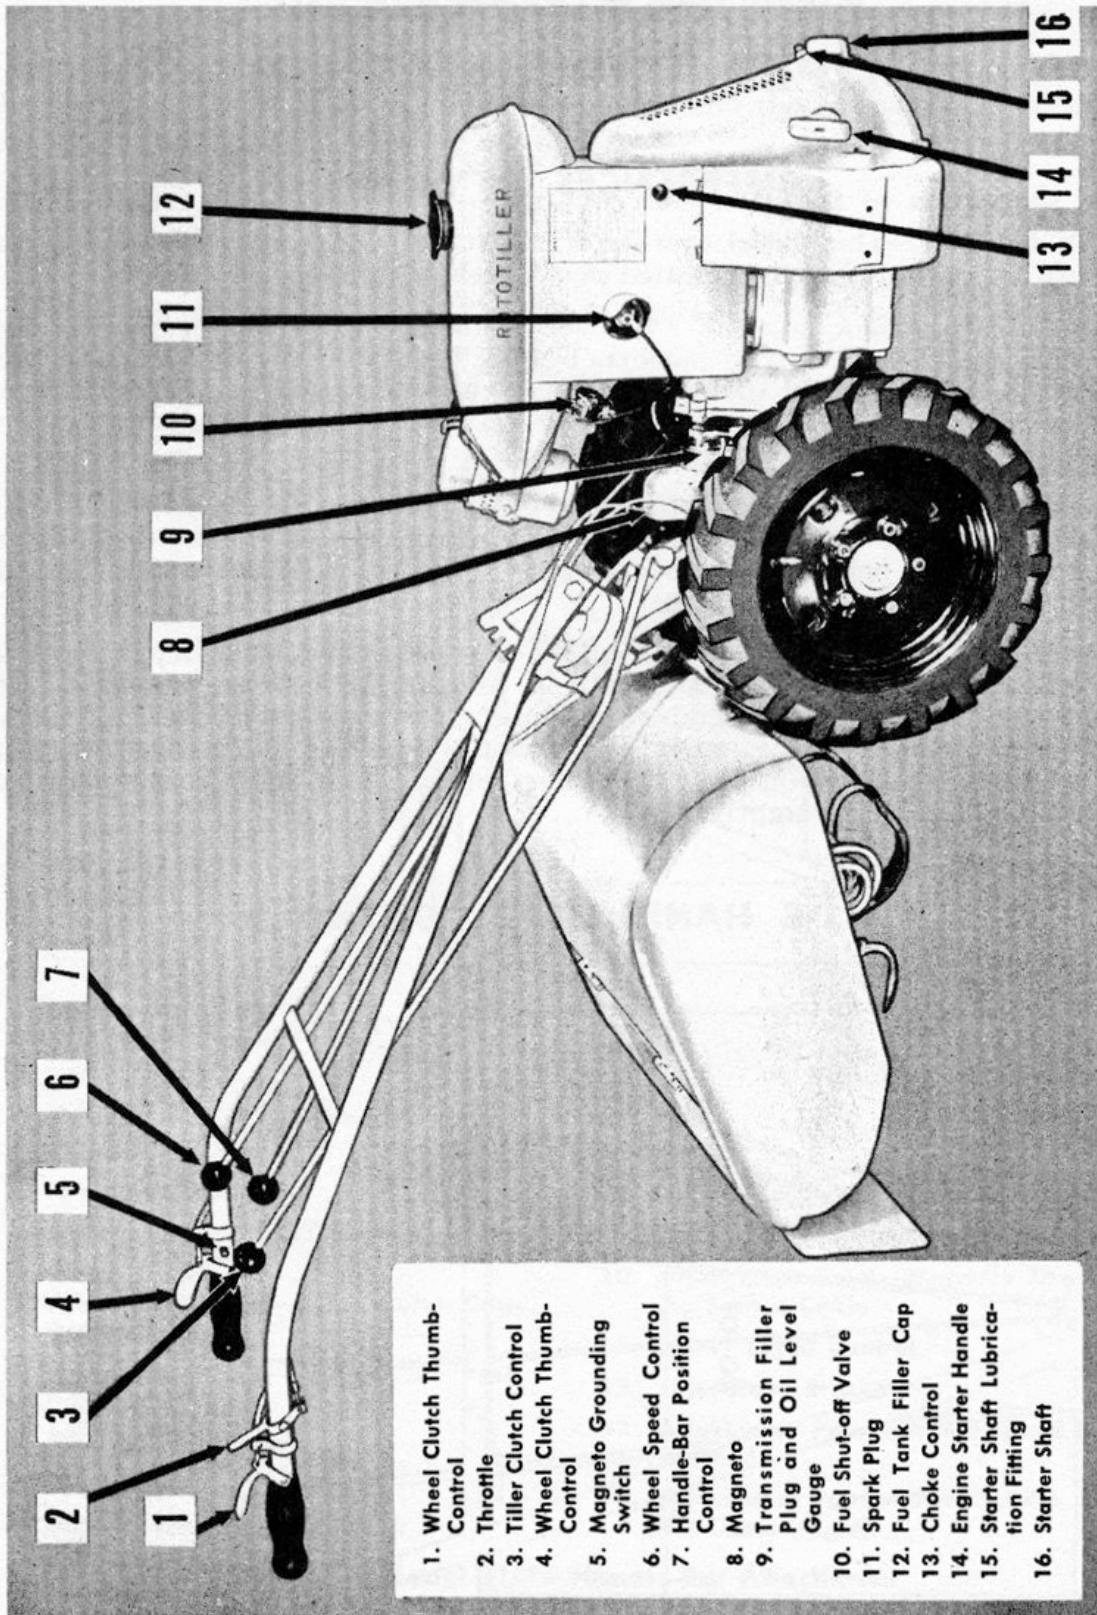

Figure 2. Model B1-7—View of Right Side
1. Open the throttle control on the right handle bar about one-third, and see that the wheel-speed and the tiller clutch controls are disengaged (neutral). (See figures 2 and 3.)